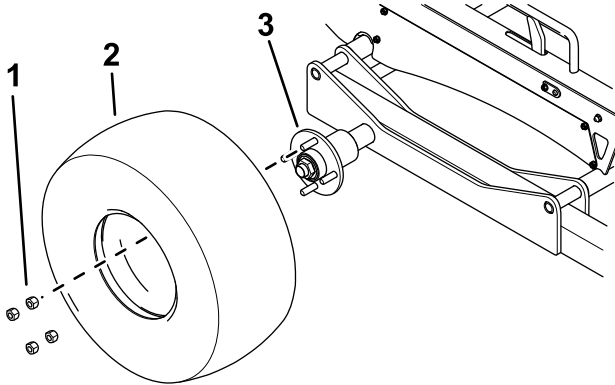

Figure 21
1. Mount a wheel assembly to each axle hub with 4 lug nuts (Figure 21).